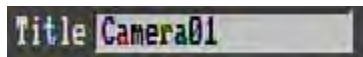

Figure 2-3 OSD Menu
**NOTE:** If the require password option is active, you will need to log in first. Refer to “Section 0 3.2 Login” for information on logging in. The menu (shown in Figure 2-3 OSD Menu ) is divided into 3 main sections.